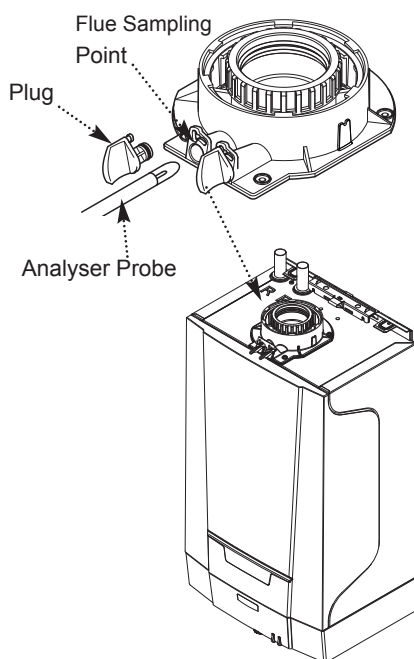

Fig. 35
5. Remove the plug from the flue sampling point (Fig. 35), insert the analyser probe and obtain the CO/CO_2 ratio. **This must be less than 0.004.** If the combustion reading (CO/CO_2 ratio) is greater than this, and the integrity of the complete flue system and combustion circuit seals has been verified, and the inlet gas pressure and gas rate are satisfactory either:-